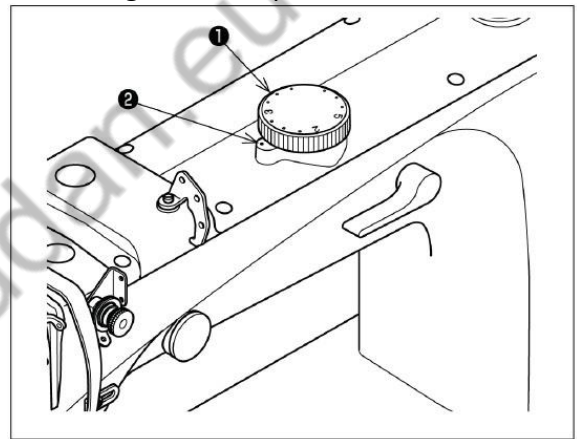

Fig.20
Amount of the alternating vertical movement of the walking foot and presser foot is to be adjusted with alternating vertical movement dial (1) on the top cover. Align the number on the alternating vertical movement dial with marker dot (2) on the top cover. The number on the alternating vertical movement dial indicates the lift amount of the walking foot and presser foot when the vertical movement amount of the walking foot and that of the presser foot are adjusted equally. In the case the vertical movement amount of the walking foot and that of the presser foot are adjusted equally, the lift amount can be adjusted from 2.0 to 5.0mm with the alternating vertical movement dial. See fig. 20.